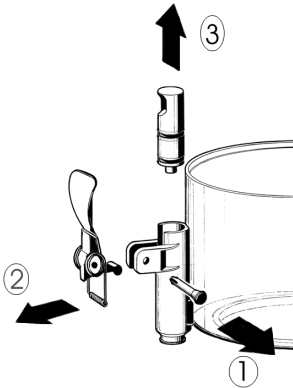

figure 1
3 Dismantle the faucet following the sequence shown (see fig. 1).
- 3 Reassemble the faucet assembly on the container in the opposite way to which it was dismantled (see fig. 1).